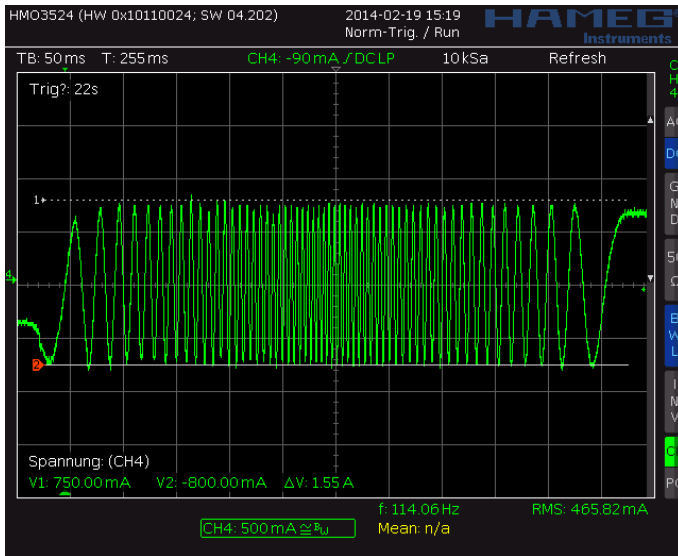
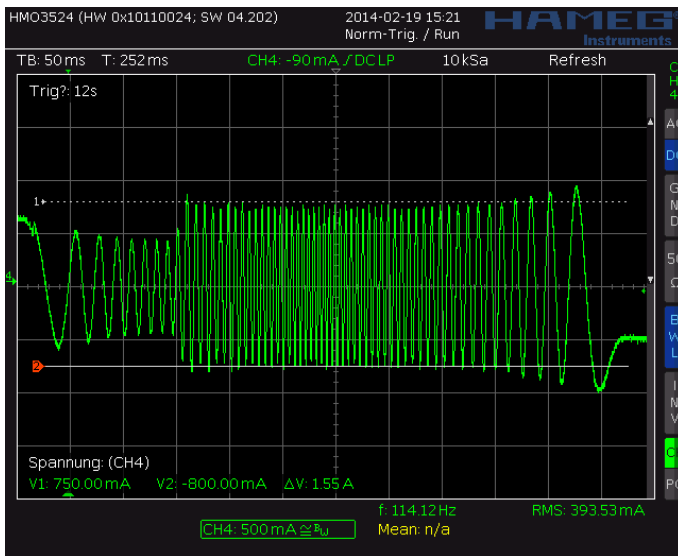
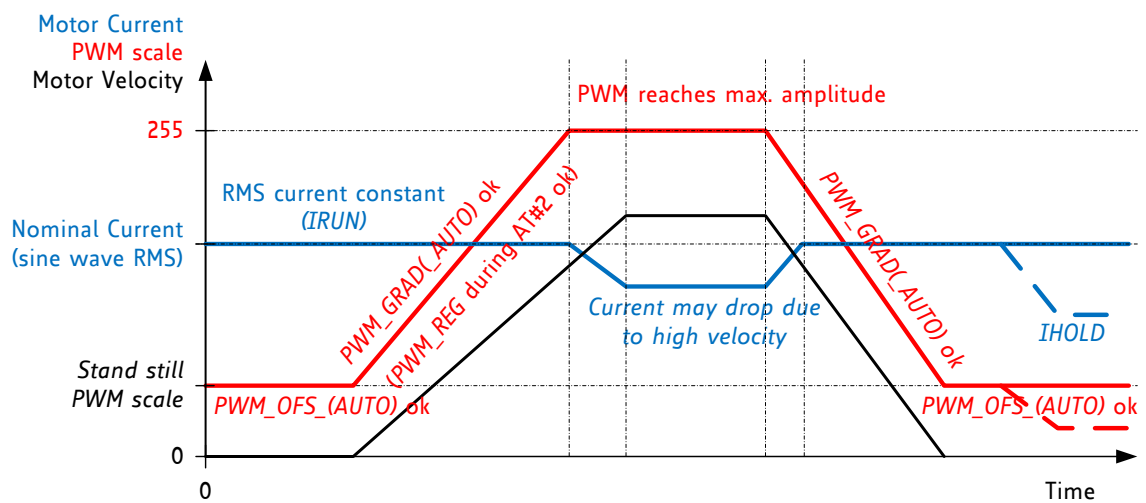

Figure 6.3 Scope shot: good setting for PWM_REG
Figure 6.4 Scope shot: too small setting for PWM_REG during AT#2
Figure 6.5 Successfully determined PWM_GRAD(AUTO) and PWM_OF(S)_AUTO
In StealthChop voltage PWM mode, the autoscaling function ($pwm_autoscale = 1$, $pwm_auto_grad = 1$) regulates the motor current to the desired current setting. Automatic scaling is used as part of the automatic tuning process (AT), and for subsequent tracking of changes within the motor parameters. The driver measures the motor current during the chopper on time and uses a proportional regulator to regulate PWM_SCALE_AUTO in order match the motor current to the target current. PWM_REG is the proportionality coefficient for this regulator. Basically, the proportionality coefficient should be as small as possible in order to get a stable and soft regulation behavior, but it must be large enough to allow the driver to quickly react to changes caused by variation of the motor target current (e.g. change of VREF). During initial tuning step AT#2, PWM_REG also compensates for the change of motor velocity. Therefore, a high acceleration during AT#2 will require a higher setting of PWM_REG . With careful selection of homing velocity and acceleration, a minimum setting of the regulation gradient often is sufficient ($PWM_REG=1$). PWM_REG setting should be optimized for the fastest required acceleration and deceleration ramp (compare Figure 6.3 and Figure 6.4). The quality of the setting PWM_REG in phase AT#2 and the finished automatic tuning procedure (or non-automatic settings for PWM_OFS and PWM_GRAD) can be examined when monitoring motor current during an acceleration phase Figure 6.5.